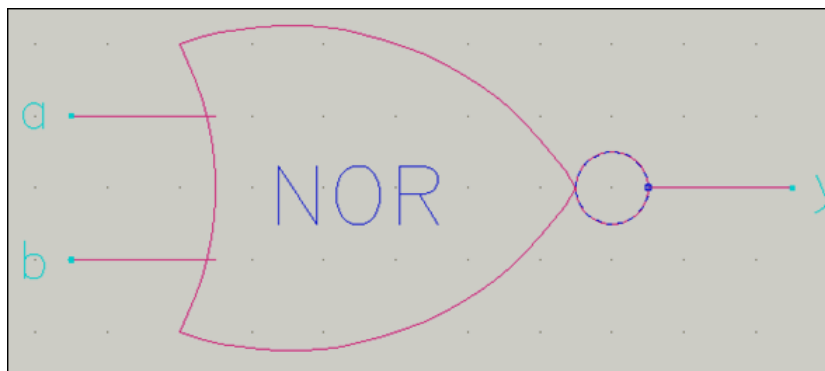

Figure 1.10: 2 input NOR Symbol
2. Follow the same procedure as before, such that the final symbol should resemble as shown in Fig.1.10